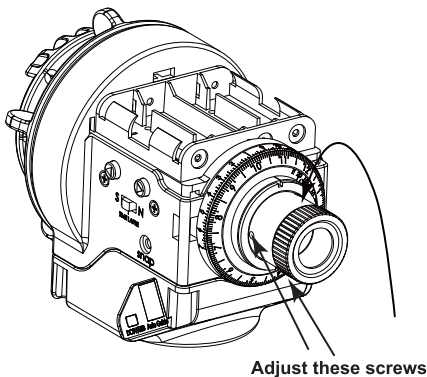
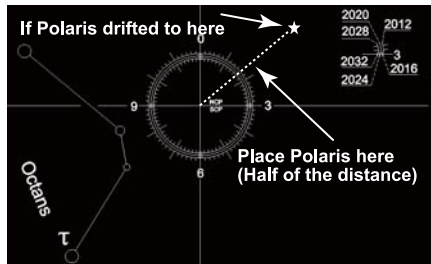

Fig 33
Fig 34
4. If, during rotation, you see the object wandering off, calibration is needed. You should rotate the **Star Adventurer** to find the point where the object is at the longest distance from the crosshair center, and then you should move the crosshair halfway towards the object(Fig 34), using the 3 tiny adjustment screws on the side of the polar scope(Fig 33). A 1.5mm Allen wrench is needed.